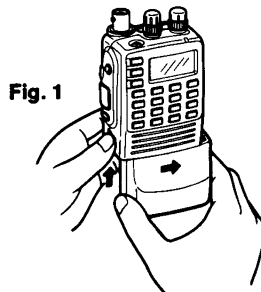

Fig. 1
- ① Push and hold the battery release button upwards, then slide the battery case to the right with the transceiver facing you. (Fig. 1)